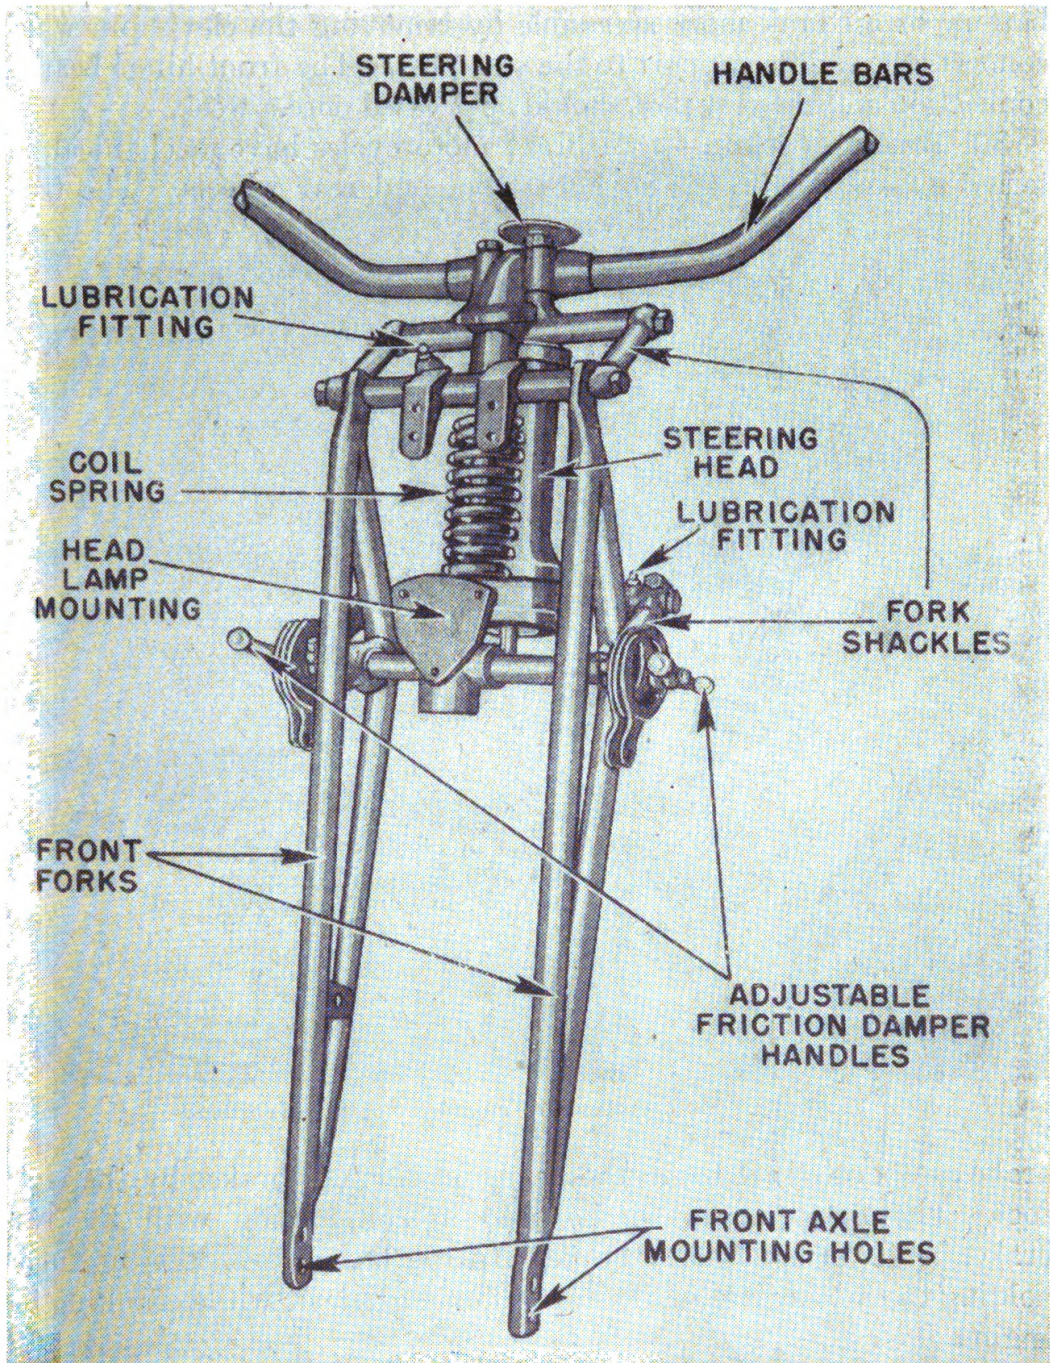

FIGURE 32.—Front-end suspension having upper fork shackles.
(4) Figure 32 shows a fork to which the front axle may be mounted directly and pivoted with upper fork shackles instead of rocker arms.